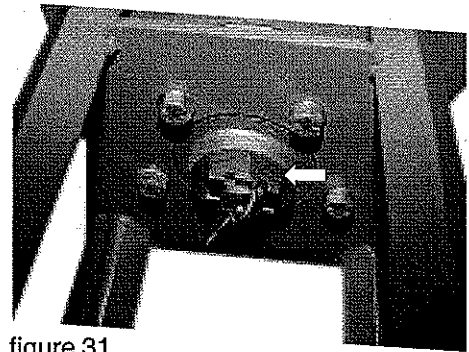

figure 31
7. Remove the hairpin clip and castle nut from the motor shaft (figure 31). Slide the motor and housing off the core.